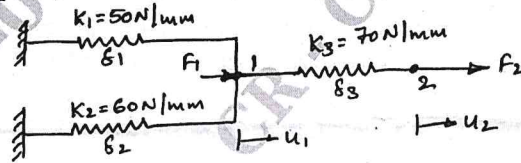

Fig.Q1(b)
- b. For the spring system shown in Fig.Q1(b), using principle of minimum potential energy, determine the nodal displacements. Take  $F_1 = 75\text{N}$ ,  $F_2 = 100\text{N}$ .